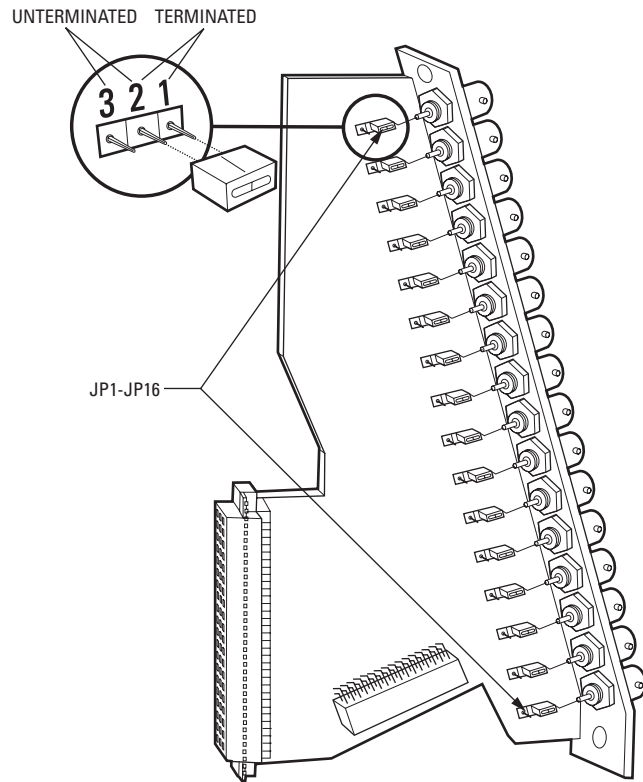

Figure 18. Termination Jumpers on CM9760-RPC Rear Panel Input Card
1. Set termination jumpers JP1-JP16 (refer to Figure 18) in the proper position: